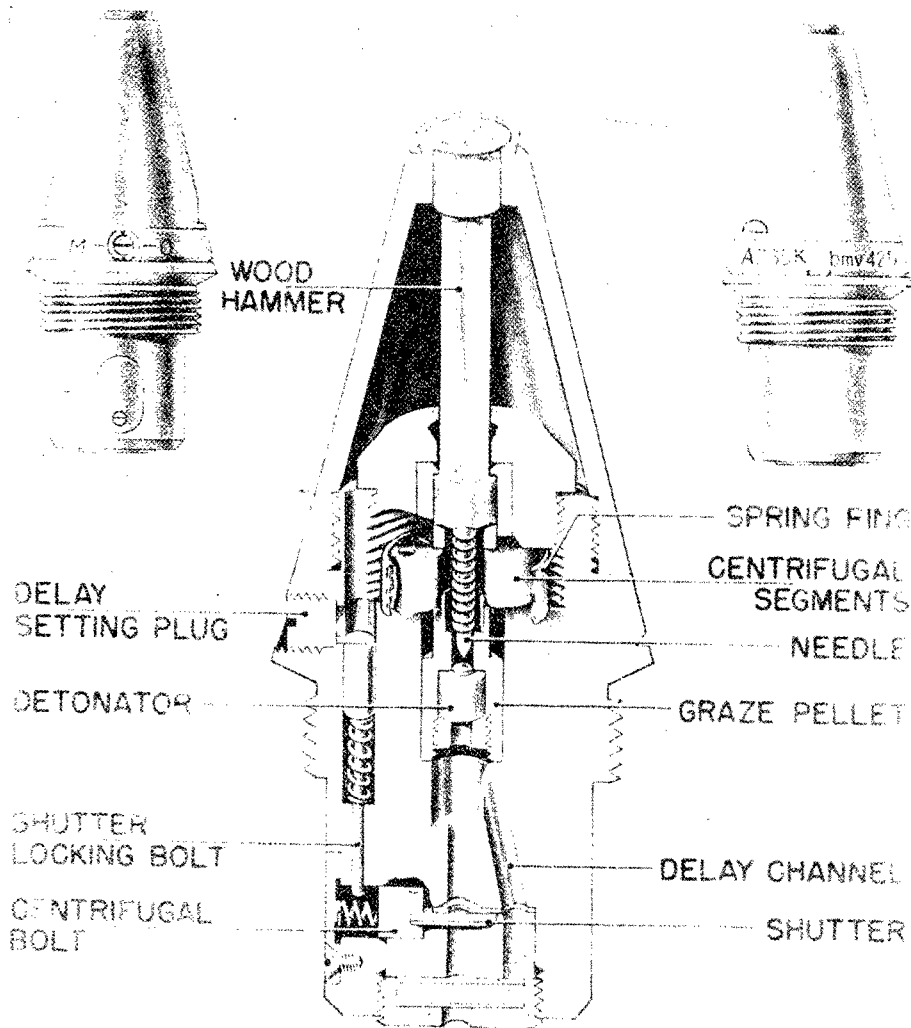

Figure 582—A. Z. 35 K
**EMPLOYMENT:** Use in H. E. shell "K Gr. 39" in the 17-cm Mrs. L. equipment. (See fig 582.)